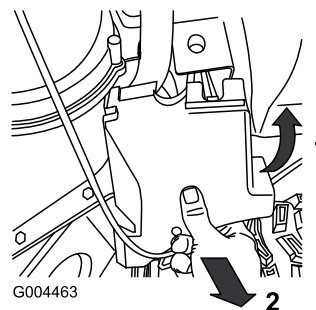

Figure 36
2. Remove the fasteners on the left belt cover, then remove the cover in the sequence shown in Figure 36.